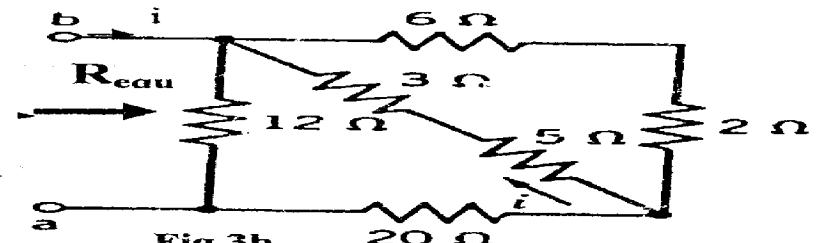

Fig.3b
- b. Find i and  $R_{equ}$  if  $V_{ab} = 80$  V in the circuit of figure 3b**